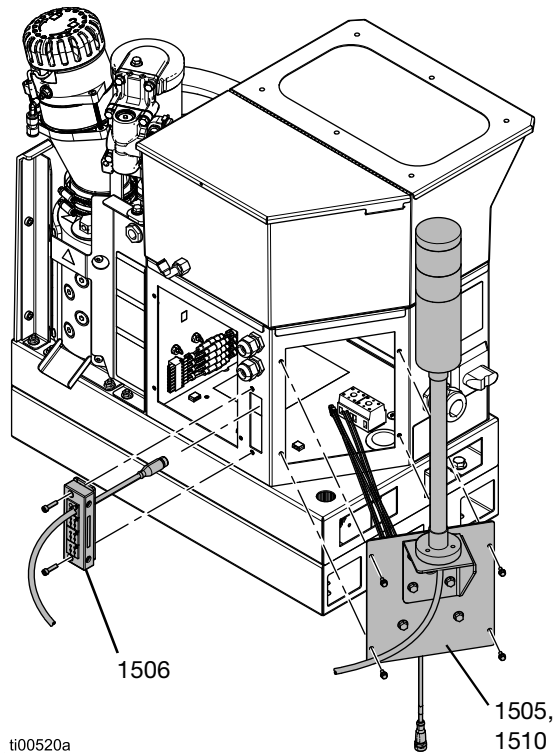

FIG. 106
4. Install the cord grip frame (1506) as shown in FIG. 106, and secure it with two screws.
5. Install the new light tower kit assembly by securing the foam gasket (1510) and light tower panel (1505) to the back corner of the unit with four screws (203).